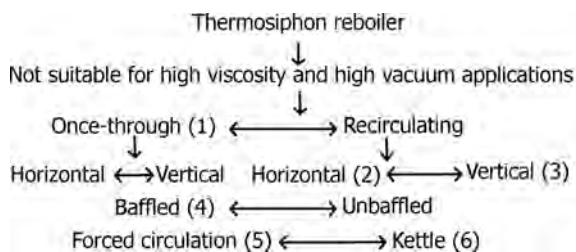

FIGURE 11.14 Quick selection guide for reboilers.
- Quick Selection Guide for reboilers (Figure 11.14).